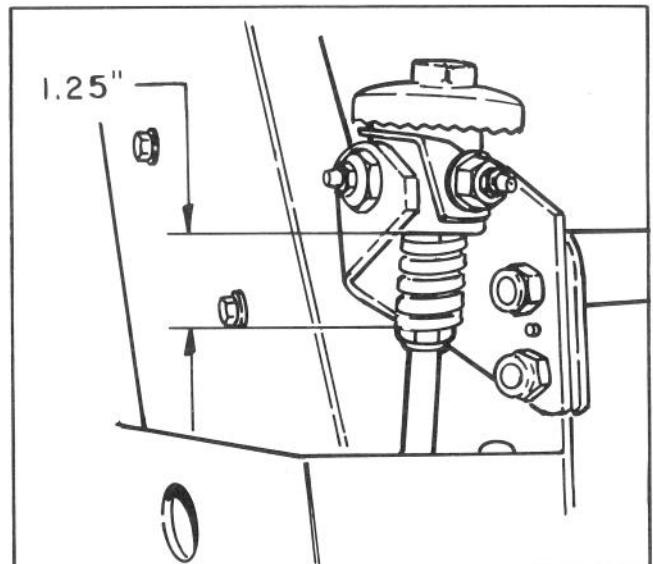

Figure 16
**Note:** To ensure proper spring tension on adjusting knob, make sure spring is compressed to a height of 1.25" (Fig. 16). Adjust spring height by rotating nut up or down.